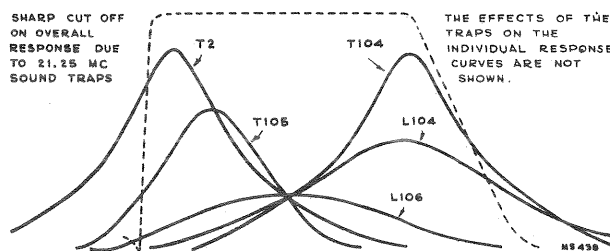

Figure 11—Stagger Tuned I-F Response
**PICTURE I-F AMPLIFIER AND DETECTOR (block #3)**—The picture i-f amplifier departs considerably from the conventional coupled system. To obtain the necessary wide band characteristic with adequate gain, four stages of i-f amplification are employed. The converter plate and each successive i-f transformer utilize one tuned circuit each and each is tuned to a different frequency. The effective Q of each coil is fixed by the shunt plate load or grid resistor so that the response product of the total number of stages produces the desired overall responsive curve. Figure 11 shows the relative gains and selectivities of each coil and the shape of the curve of the quintuple combination.